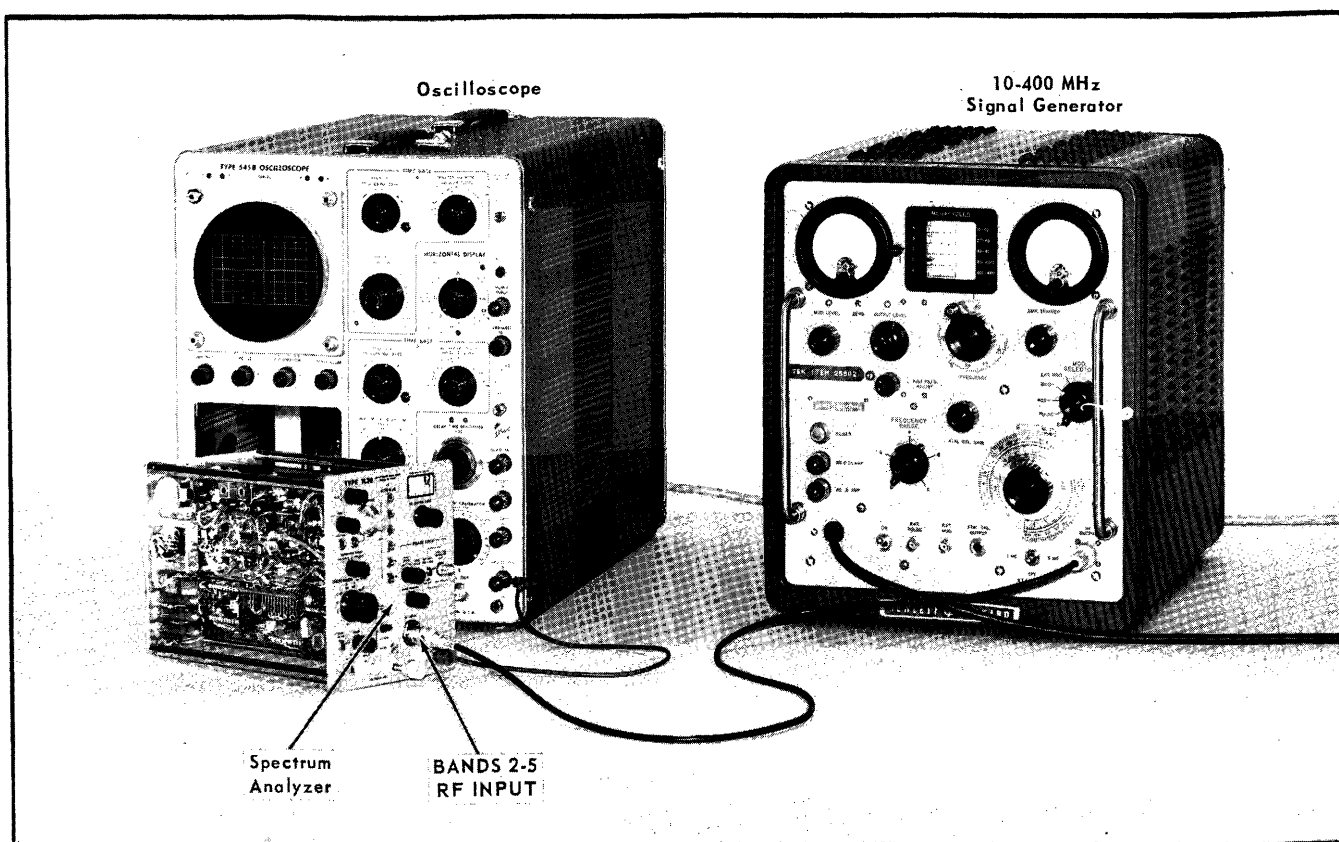

Fig. 6-20. Setup for Steps 13 through 16.
- c. If a spurious signal is observed, position it to the center of the CRT and adjust C14 and C16 (see Fig. 6-20) for minimum amplitude.
- a. Connect the equipment as shown in Fig. 6-20.
14. Adjust and Check Dynamic Ranges ①
- a. Set up the equipment as shown in Fig. 6-20.